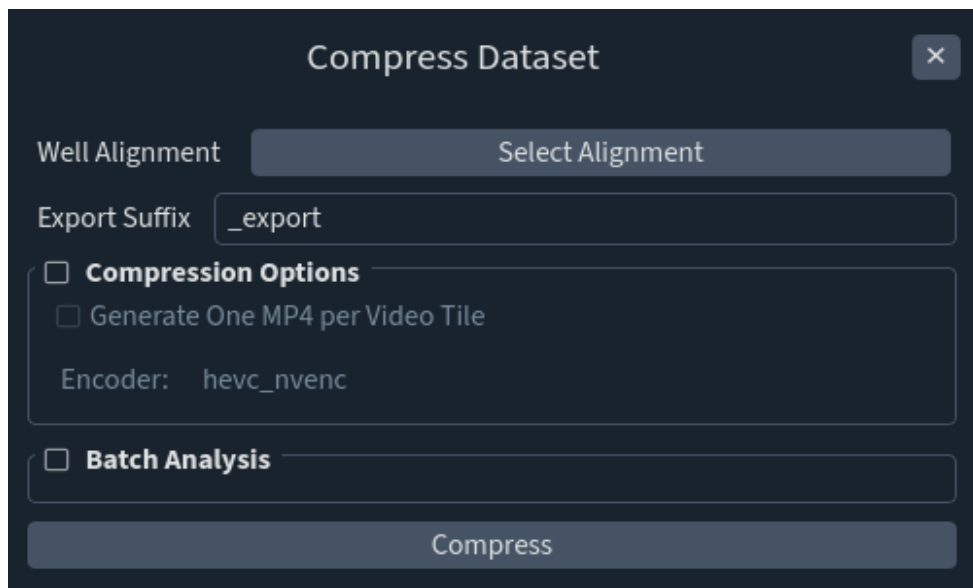
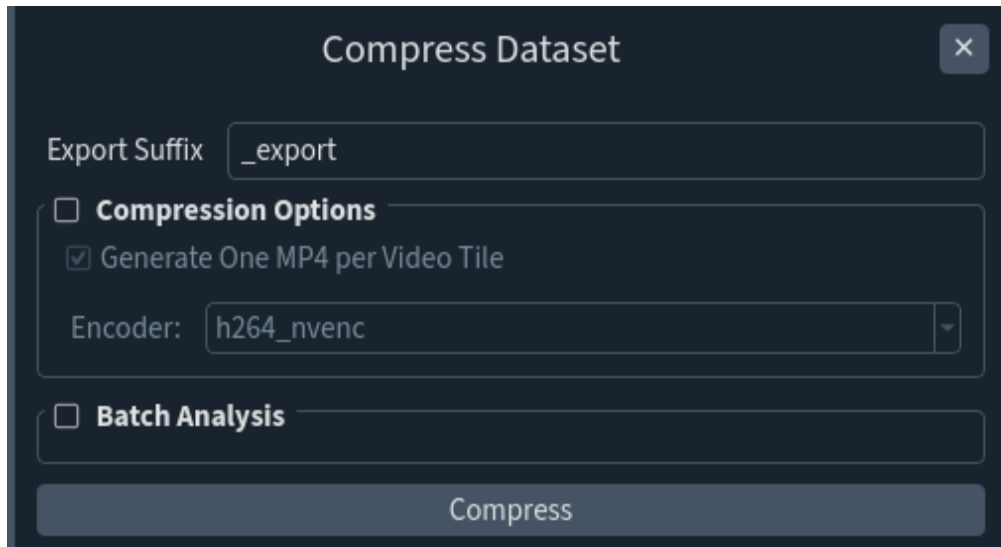

Fig 38a: Panel for dataset compression with alignment option.
Fig 38b: Panel for dataset compression without alignment option.
- 2) Click “Select Alignment File” and select the well keypoints file corresponding to the well plate in use that was saved previously (Fig 38a). If the file has already been aligned then this will not be available and the compression can be run without this step (Fig 38b).